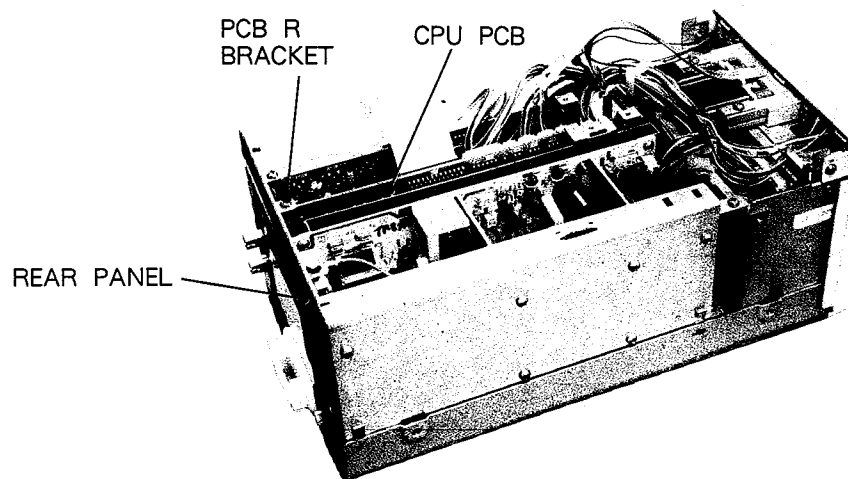

Fig. 6
3. Remove the REAR PANEL. (Fig. 6)
4. Remove screws securing PCB R BRACKET. (Fig. 6)